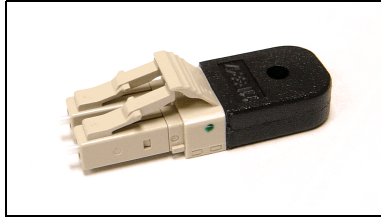

Figure 99 External loopback plug
- External: The external test sends a test frame from the ASIC through the SerDes chip, through the SFP module fitted with an external loopback plug (as shown in Figure 99), and back to the ASIC for the selected ports. The port passes the test if the test frame that was sent by the ASIC matches the test frame that was received. This test requires that the port be in diagnostics mode, and is therefore disruptive.